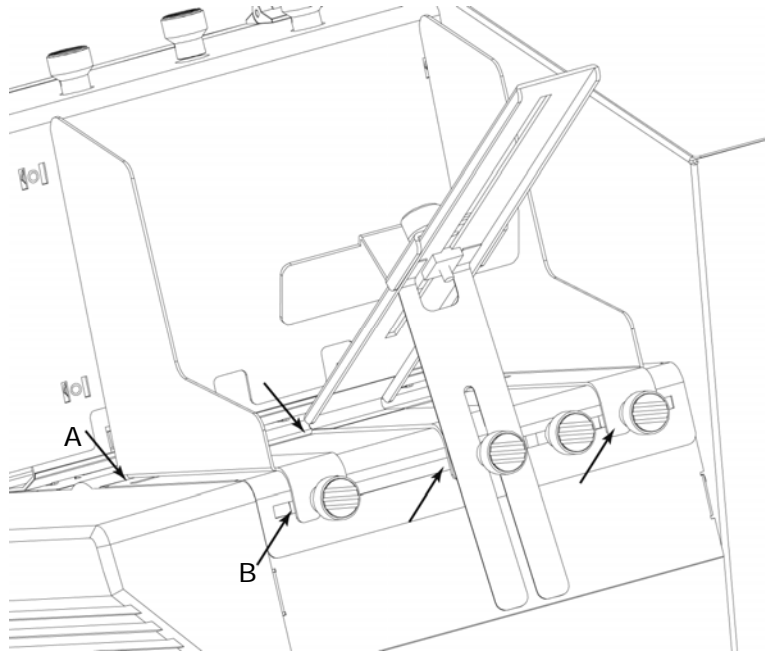

Figure 5: Mounting II
- To mount a paper side guide or the paper feed ramp, place the front bracket (A) into the slot of the contact plate and place the rear part (B) over a fixing screw. Then lock the fixing screw (see Figure 5).